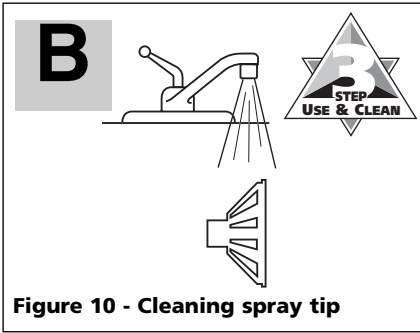

Figure 10 - Cleaning spray tip
4. Remove spray tip from gun body. Remove swirl valve and clean both items with water or the appropriate cleaning solvent as recommended by paint manufacturer (see Figure 10).